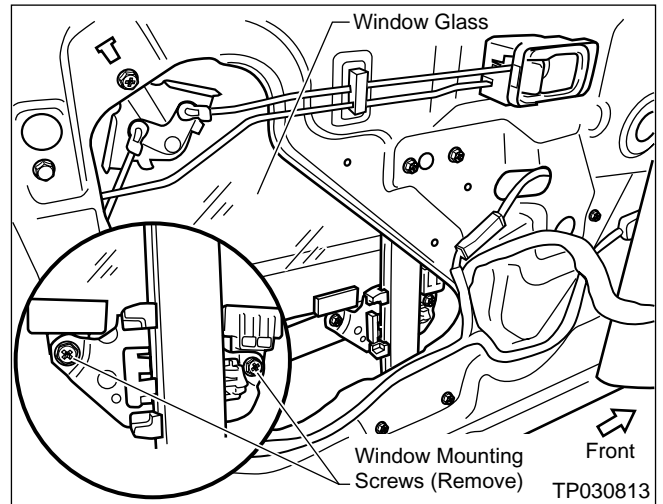

Figure 33
13. Temporarily re-connect the Door Pull Handle/Switch Panel to the Vehicle Harness. Then adjust (up or down) the window until the Window Mounting Screws are visible (see Figure 33).
14. While holding onto the window, remove the Window Mounting Screws (see Figure 33).